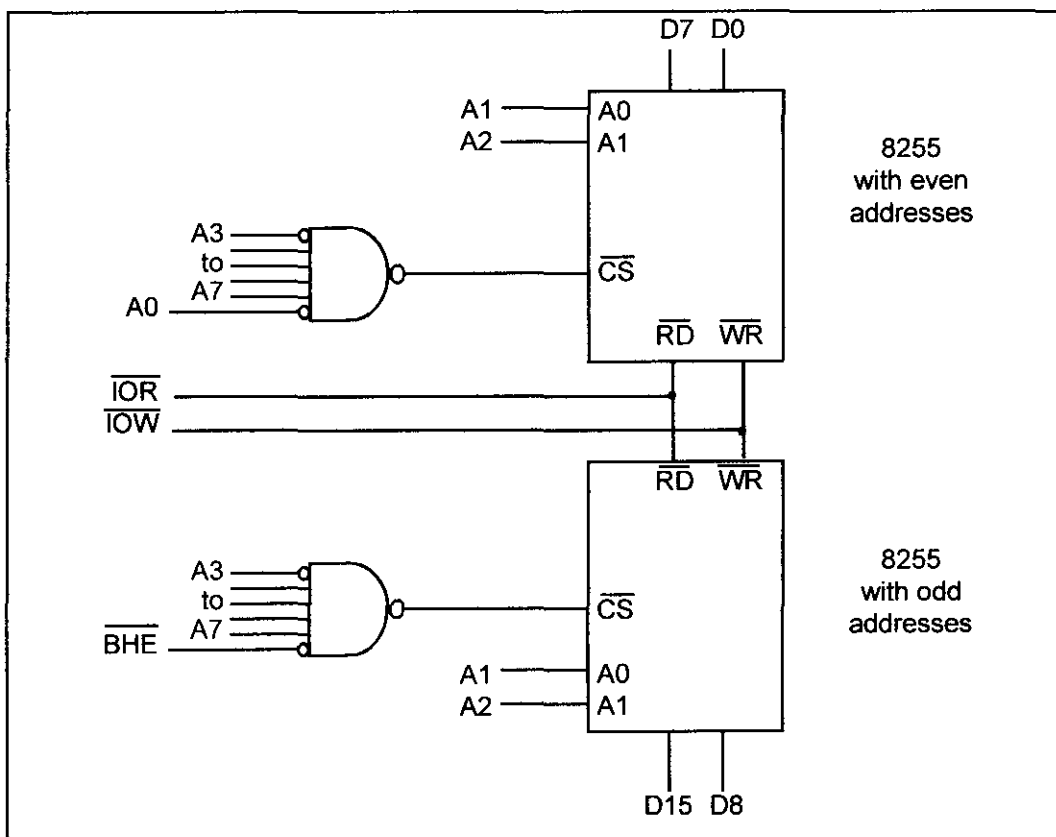

Figure 11-27. Odd and Even Ports with the 8255
1. Simply use two separate PPI devices, such as the 8255. One is used for odd addresses and the other for even addresses. For example, in a design using this method, if port 74H is assigned to port A of the 8255, then port B has the address 76H, port C the address 78H, and so on. Another problem is outputting the contents of register AX in an instruction such as "OUT 76H,AX". In this case, AL is carried to the 8255 with odd port addresses on D0 - D7 and AH is carried to the other 8255 with even port addresses on D8 - D15. This is extremely awkward and confusing for the programmer. Figure 11-27 shows the 8255 with odd and even port addresses.